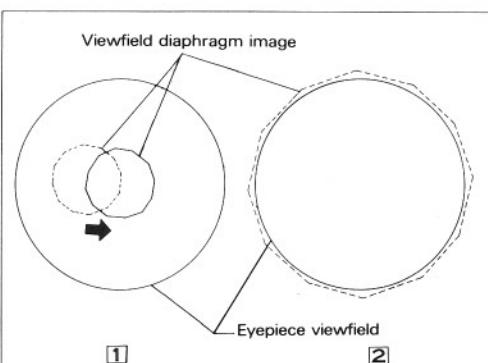

Fig. 25
- 7) Using the 4X objective, adjust the size of viewfield diaphragm so that the viewfield image coincide with the eyepiece field, as shown in Fig. 25 – ② . Then, if they are found decentered from each other, do centering by means of the condenser centering screws.
- 6) Using the 4X objective, adjust the size of viewfield diaphragm so that the viewfield image coincide with the eyepiece field, as shown in Fig. 25 – ② . Then, if they are found decentered from each other, do centering by means of the condenser centering screws.